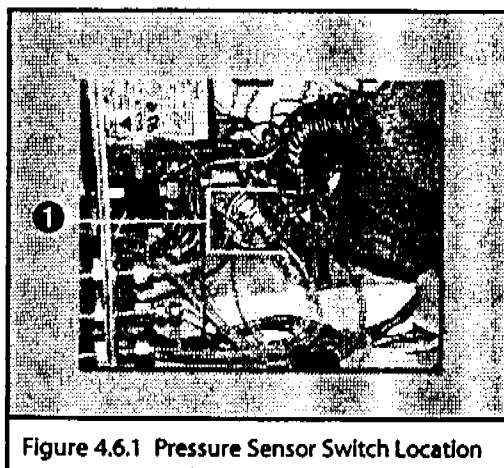

Figure 4.6.1 Pressure Sensor Switch Location
6. Locate the pressure switch assembly (1, Figure 4.6.1).